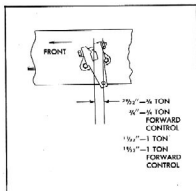

Fig. 52A—Positioning Outer Lever
4. On ¾ and 1 ton, adjust brake pedal pull rod clevis to obtain cross shaft outer lever position (fig. 52A).